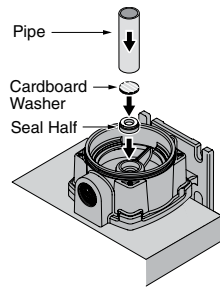

Figure 7
1. Turn the bracket pump side up on the bench. You will need to block it up to do this (See Figure 7).
5. If the seal does not seat correctly after recleaning the cavity, place a clean cardboard washer over the polished seal face and carefully press it into place using a piece of standard 3/4" pipe as a press. See Figure 7.